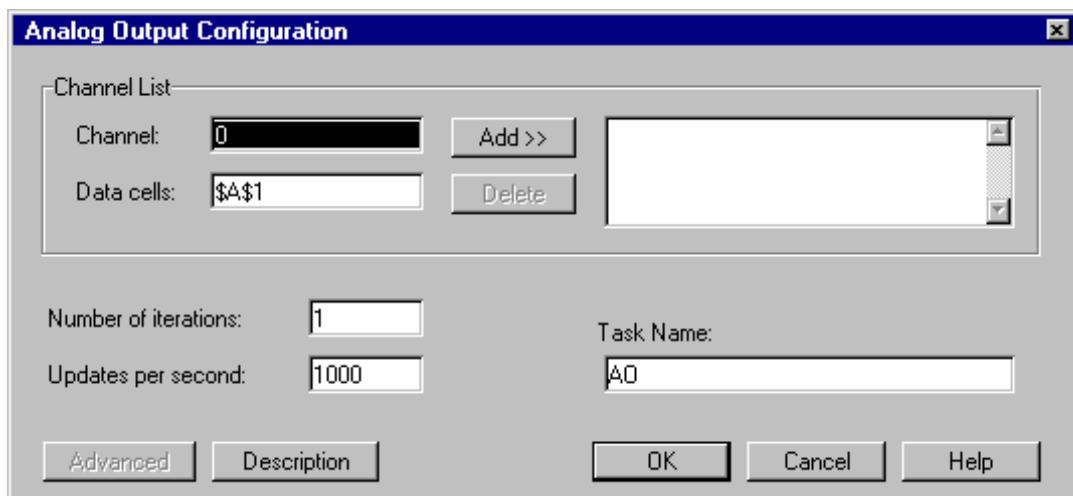

Figure 2-5. Analog Output Configuration Dialog Box
1. From the DAQ Task dialog box, select **AO** from the Create a task section of the dialog box to display the Analog Output Configuration dialog box, shown in Figure 2-5.